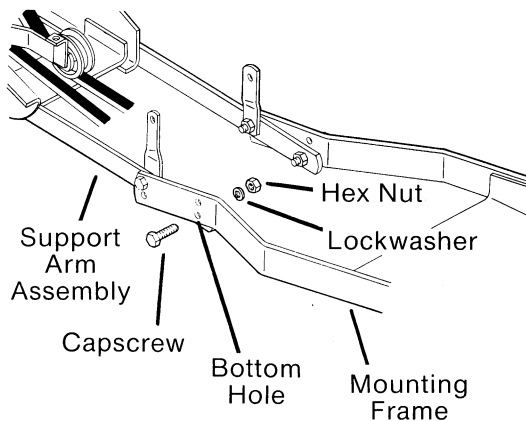

FIG. 6
- H. Align end hole in support arm assembly with bottom hole in mounting frame. (Fig. 6) Secure using capscrew, lockwasher and hex nut. Tighten this hardware along with hardware in the same position on the **right** side of mounting frame.